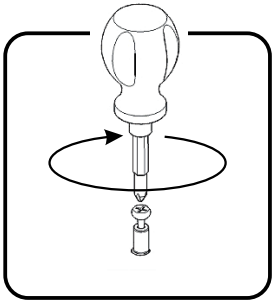

Figure 1
Insert Cam Lock Screws into pre-drilled holes in Top (A), Side Panels (C), (E), (K), (M), Fixed Shelf (B) and Base (G), then tighten. (See Figure 1)